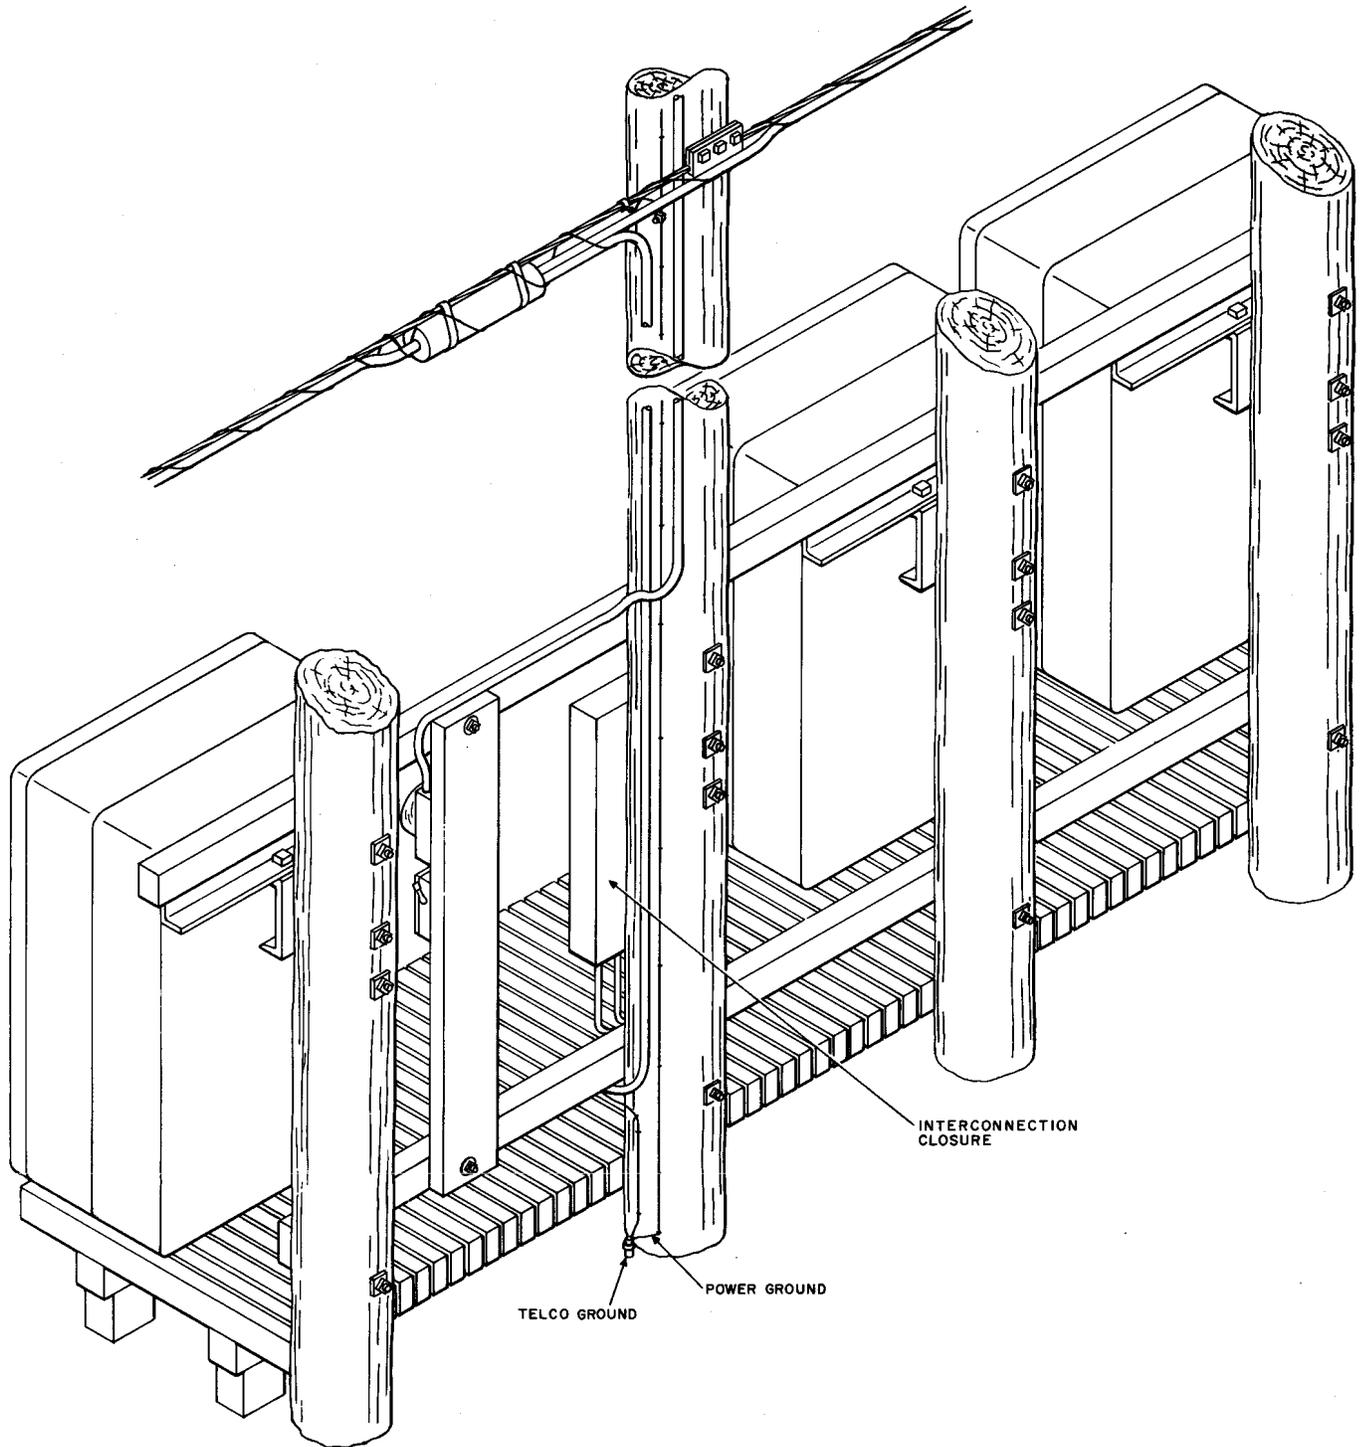

Fig. 17—Completed Three RT Cabinet Installations
6.15 Adjust the lower mounting brackets so the cabinet hangs plumb. Secure the brackets to the pole with 3/8- by 3-inch drive screws. Remove the lifting eyes, if desired. A completed three RT cabinet installation is illustrated in Fig. 17.